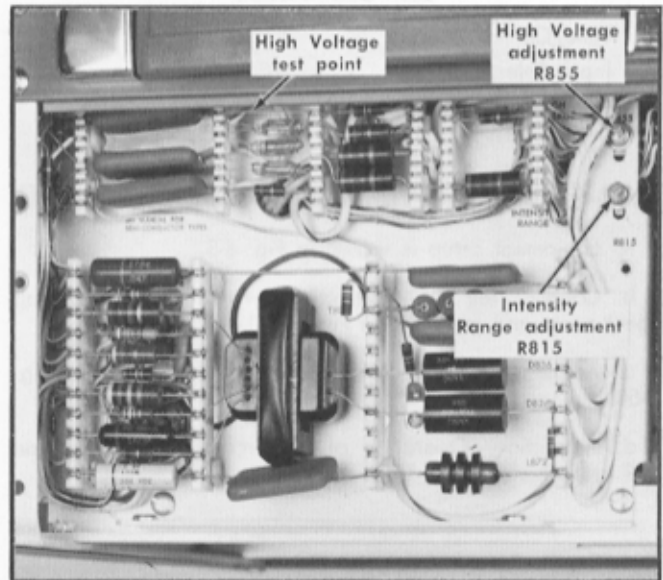

Fig. 6-6. Location of High Voltage test point, High Voltage adjustment R855 and Intensity Range adjustment R815.
- Adjust the High Voltage adjustment R855 (see Fig. 6-6) for -3700 volts.
4. Adjust Intensity Range ①
- Turn the Intensity Range adjustment R815 (Fig. 6-6) fully counterclockwise and then turn the INTENSITY control fully clockwise.